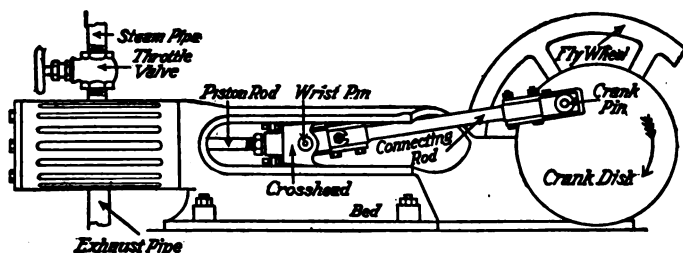
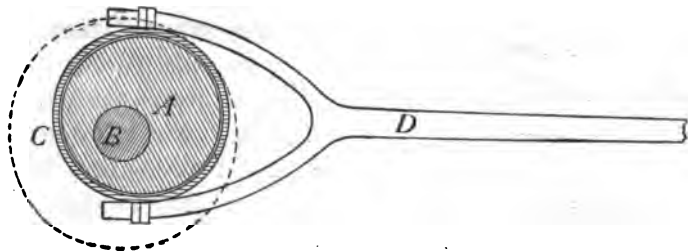

FIG. 160.—External view of steam engine.
FIG. 163.—An eccentric.
makes a cardboard model of these parts, the piston and slide valve being movable. In practical steam-engines, the piston rod is attached to a *crank rod* fastened to a crank which turns a wheel. (See Fig. 160.) The back and forth, or *reciprocating* motion of the piston is by this means transformed into *rotary* motion, just as in the sewing-machine the back-and-forth motion of the treadle produces rotary motion of the large wheel. Upon the shaft of the steam engine is fastened an *eccentric* (see Fig. 163) which
14. An eccentric (Fig. 163), is a round disc mounted a little to one